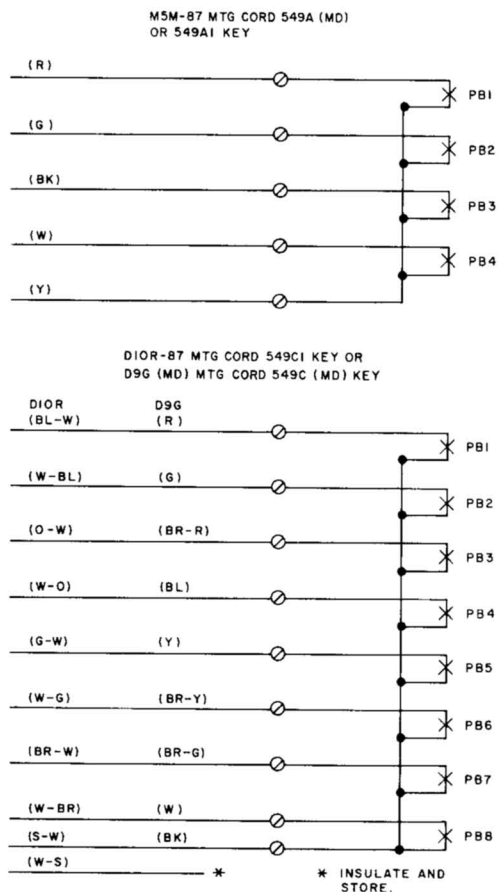

Fig. 8—549-Type Key, Connections
5.01 Fig. 8 shows connections for the 549-type keys. Substitute inside wire of sufficient capacity when using keys without cords.